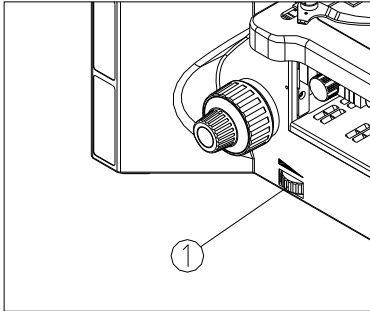

Fig. 11
- (1) Put through the power and turn on the main power switch to “—”. (see Fig. 11)
- (2) Adjust the light adjustment knob ① until the illumination is comfortable for observation. Rotate the light adjustment knob ① clockwise to raise the brightness. Rotate the light adjustment knob ① counterclockwise to lower the brightness.